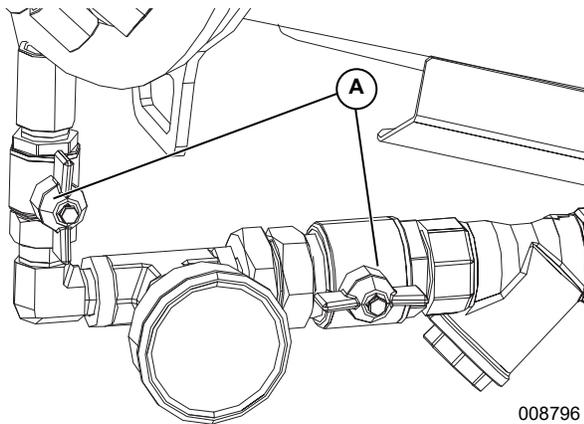

Figure 4-2. Open Valves
1. See **Figure 4-2**. Open nozzle valves (A).